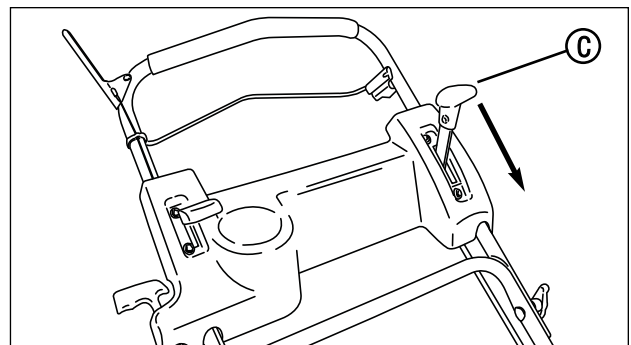

Figure 26: The ground speed control
1. Move the ground speed control (A, Figure 26) into the 'fast' position.